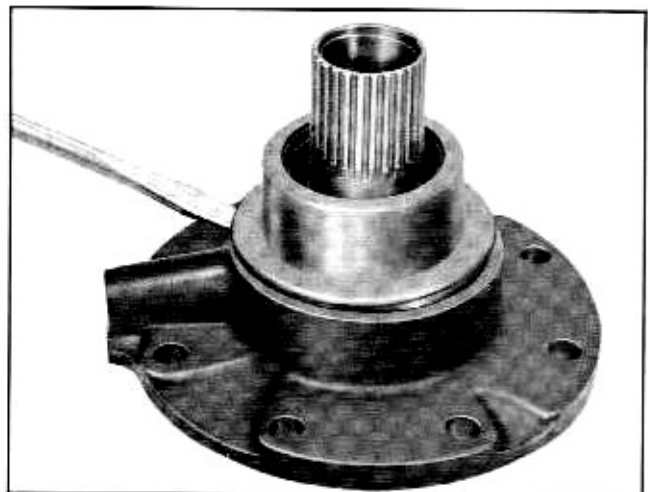

Fig. 4-43 Removing Rear Flange and Stator Seal
5. Pry off rear flange and stator seal as shown (Fig. 4-43).